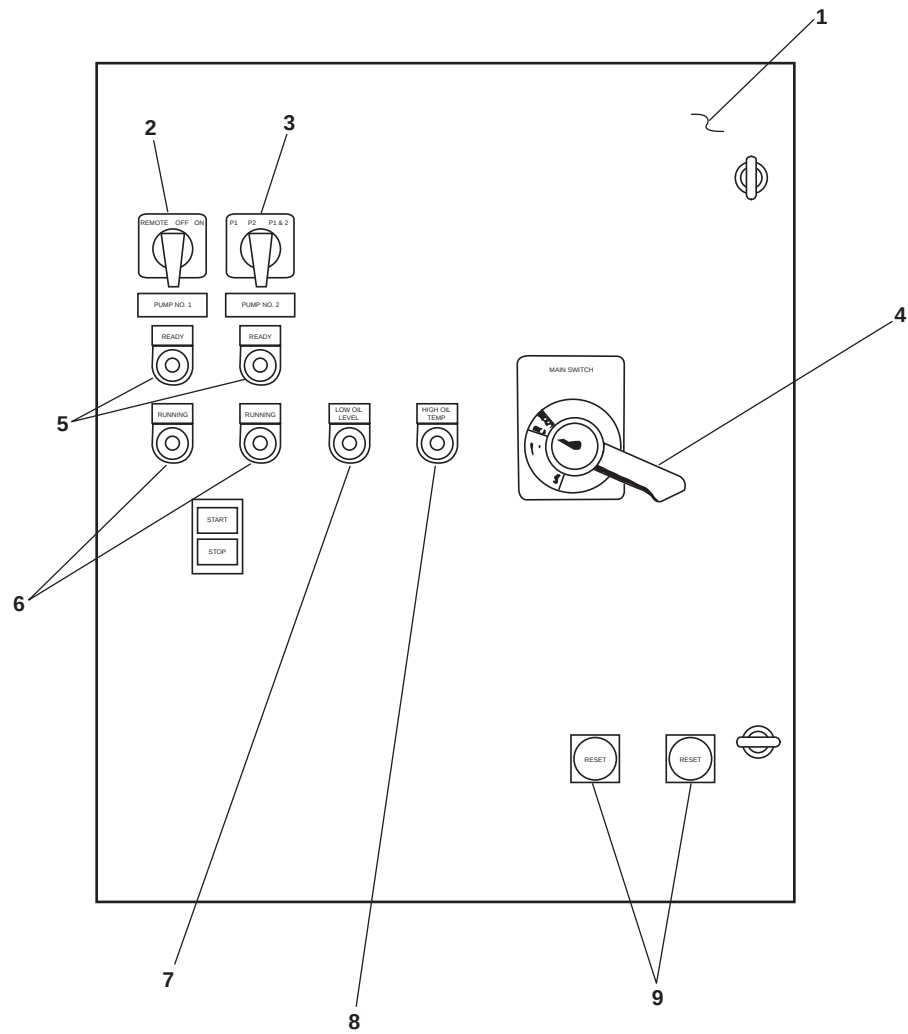
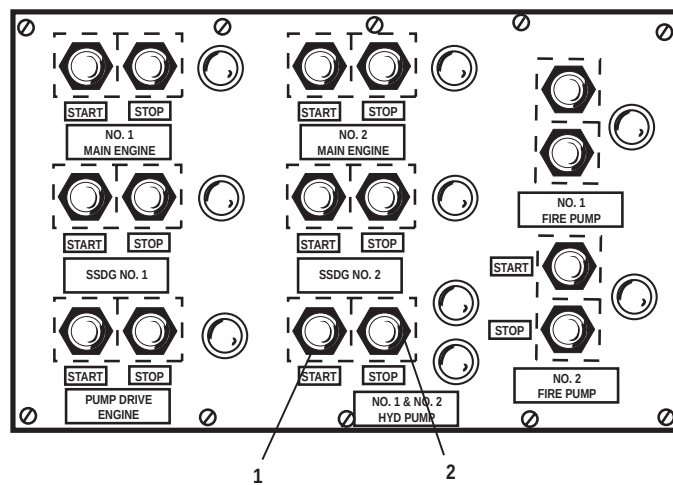
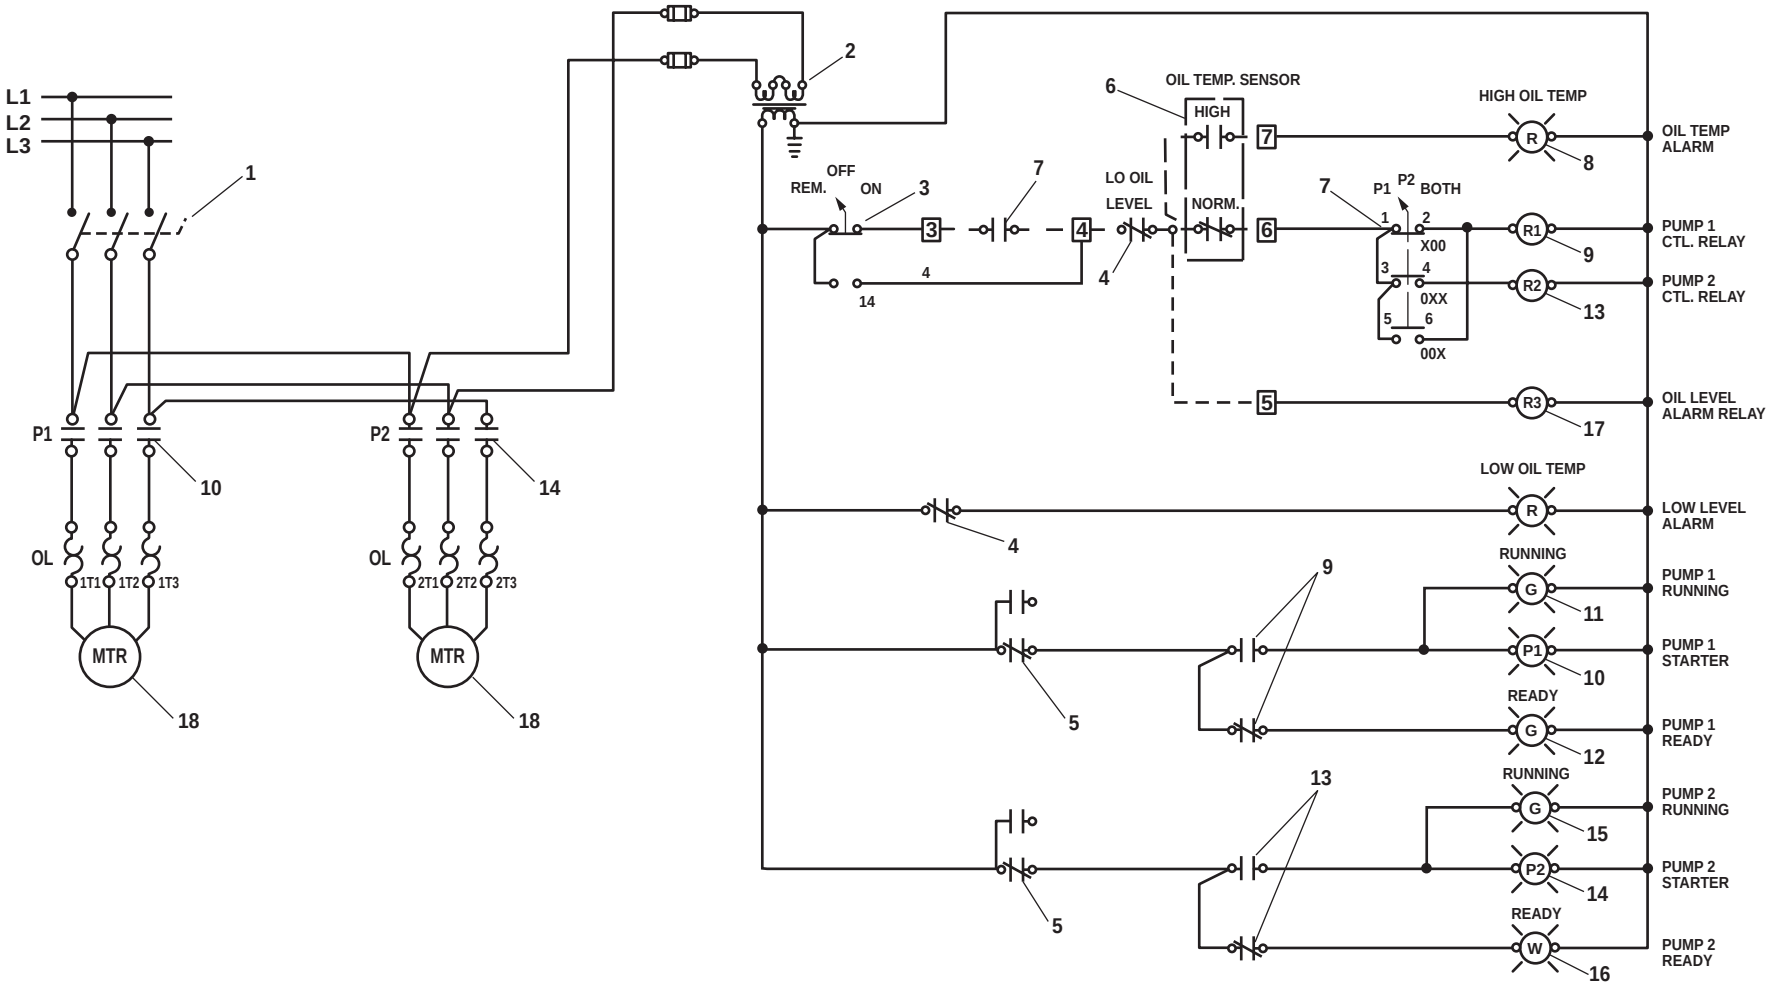

Figure 2. Central Hydraulic Power Unit Motor Controller
Figure 3. Machinery Control Panel in EOS
Figure 4. Central Hydraulic Power Unit Electrical Schematic
The central hydraulic power unit motor controller (figure 2, item 1), mounted forward and above the system's reservoir, provides the primary source of control for the central hydraulic system. Remote START/STOP control of the system is also provided via controls on the EOS console (figure 3).
The central hydraulic power unit motor controller contains a REMOTE/OFF/ON selector switch (figure 2, item 2). This switch permits the operator to determine whether the ON/OFF control will be achieved locally (OFF and ON positions) or remotely (REMOTE position) from the EOS. The P1/P2/P1&P2 selector switch (figure 2, item 3) permits the operator to select which pump(s) will operate when the system is turned ON. The MAIN SWITCH (figure 2, item 4) is the primary power disconnect for the system's electric power. READY (figure 2, item 5) and RUNNING (figure 2, item 6) indicator lights are provided for each pump to indicate the pump's condition. LOW OIL LEVEL (figure 2, item 7) and HI OIL TEMP (figure 2, item 8) lights are also provided to signal these alarm conditions. The final components of the control panel are the reset switches (figure 2, item 9). These pushbutton switches permit the operator to reset the electric motor(s) after the thermal resets have tripped.
When the main disconnect switch (figure 4, item 1) is CLOSED (ON), power is supplied to the control panel (figure 2, item 1).
Power (440 Vac) from the main disconnect switch (figure 4, item 1) flows through a transformer (figure 4, item 2) where it is converted to a lower voltage for the control circuitry. Leaving the transformer, the power is supplied to the REMOTE/OFF/ON switch (figure 4, item 3), to the low oil level switch (figure 4, item 4), and to the thermal overload reset switches (figure 4, item 5).
If the REMOTE/OFF/ON switch (figure 4, item 3) is in the OFF position, the switch is OPEN and no power is supplied to the low oil level switch's (figure 4, item 4) Normally Closed (NC) contacts. If the switch is in the ON position, the switch is CLOSED between terminals 13 and 14, supplying power to the low oil level switch's NC contacts. If the switch is in the REM position, the switch is CLOSED between terminals 21 and 22, supplying power to the REMOTE/OFF/ON switch (figure 4, item 3) in the EOS console. When the START pushbutton (figure 3, item 1) is pressed, the switch CLOSES, supplying power to the low oil level switch's NC contacts. When the STOP pushbutton (figure 3, item 2) is pressed, the switch is OPEN, securing power to the low oil level switch's NC contacts.
When power is supplied from the REMOTE/OFF/ON switch (figure 4, item 3), and when the low oil level switch's (figure 4, item 4) NC contacts are CLOSED (hydraulic fluid level is above the low mark), power is supplied to the high temperature cutoff switch (figure 4, item 6). The high temperature cutoff switch has both NC and Normally Open (NO) contacts. The NC contacts supply power to the P1/P2/P1&P2 (figure 4, item 7) switch, while the NO contacts supply power to the HIGH OIL TEMP light (figure 4, item 8).
When the P1/P2/P1&P2 switch (figure 4, item 7) is in the P1 position, the switch is CLOSED between terminals 1 and 2 and OPEN between all other terminals. This supplies power to the pump 1 control relay (figure 4, item 9). When the pump 1 control relay is powered, it CLOSES between terminals 9 and 5 and OPENS between terminals 9 and 1. This powers the pump 1 starter (figure 4, item 10) and the pump 1 RUNNING light (figure 4, item 11). When the pump 1 control relay is not powered, it CLOSES between terminals 9 and 1 and OPENS between terminals 9 and 5. This illuminates the number 1 pump READY light (figure 4, item 12) and secures power to the motor by opening the pump 1 starter.
When the P1/P2/P1&P2 switch (figure 4, item 7) is in the P2 position, the switch is CLOSED between terminals 3 and 4 and OPEN between all other terminals. This supplies power to the pump 2 control relay (figure 4, item 13). When the pump 2 control relay is powered, it CLOSES between terminals 9 and 5 and OPENS between terminals 9 and 1. This powers the pump 2 starter (figure 4, item 14) and the pump 2 RUNNING light (figure 4, item 15). When the pump 2 control relay is not powered, it CLOSES between terminals 9 and 1 and OPENS between terminals 9 and 5. This illuminates the number 2 pump READY light (figure 4, item 16) and secures power to the motor by opening the pump 2 starter.
When the P1/P2/P1&P2 switch (figure 4, item 7) is in the BOTH position, the switch is CLOSED between terminals 3, 4, 5, and 6, and OPEN between terminals 1 and 2. This supplies power to both control relays (figure 4, items 9 and 13) and both starters and lights are powered as described in the two preceding paragraphs.
The low level switch (figure 4, item 4) has both NO and NC contacts. The NO contacts supply power to the LOW OIL LEVEL light (figure 4, item 17) while the NC contacts supply power to the high temperature cutoff switch (figure 4, item 7). When the hydraulic fluid level in the reservoir drops below 98 gallons (371 liters), the NO contacts CLOSE, illuminating the LOW OIL LEVEL light, and the NC contacts OPEN, securing power to the pump motors (figure 4, item 18).